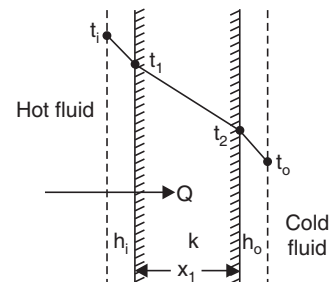

FIGURE 7.3
The rate of flow of heat (Q) from a hot fluid at temperature t_i to cold fluid at temperature t_o through a wall of thickness x_1 and thermal conductivity k is given by (Refer to Fig. 7.3)